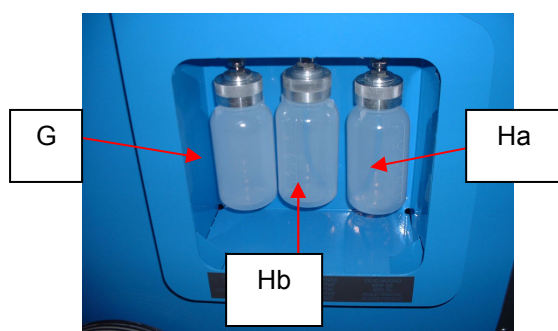

Fig. 6 – Oil bottles: old oil (G),
- 3 - Insert the plug into the socket and turn on the general switch (M) in order to switch-on the station.
- 5 - Fill in the fresh oil container (H) with the appropriate synthetic oil for cooling (TYPE RL 100 - optional) and the tracer container (Hb) with oil and tracer (fig. 6).